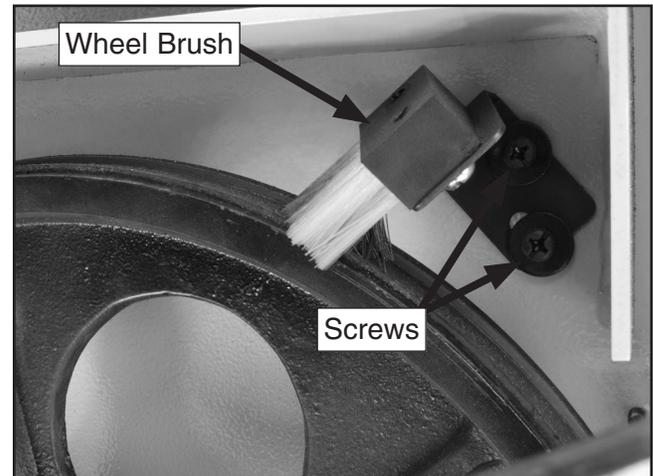

Figure 60. Wheel brush.
5. Loosen the screws that hold the wheel brush in place (**Figure 60**).